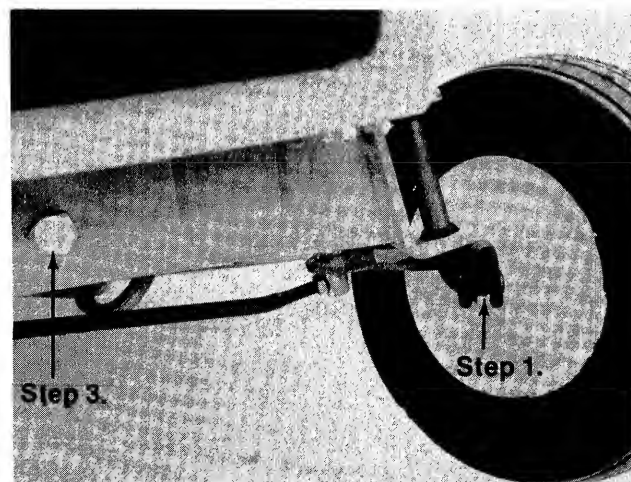

FIGURE 28.
1. Front Wheel Bearings (4)—Lubricate with light oil once a season or after every 25 hours of operation. See figure 28. A 4 oz. plastic bottle of light oil lubricant is available. Order part number 737-0170. Engine oil may also be used.
3. Pivot Bolt—Lubricate with light oil once a season. See figure 28.